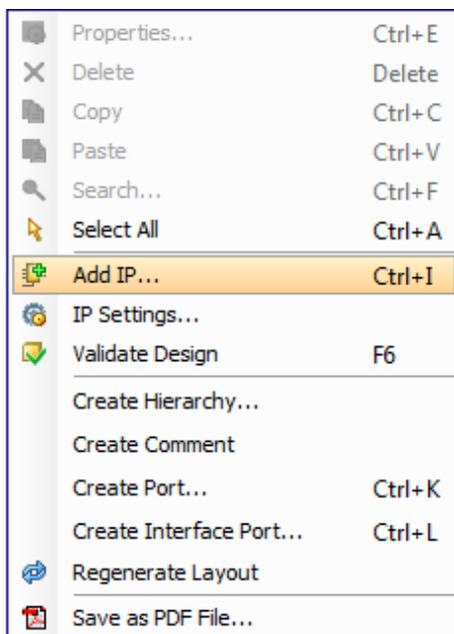

Figure 2.7: Add IP Option
- (c) In the *Vivado IP Integrator Diagram* canvas, right-click anywhere and select **Add IP**, as in Figure 2.7.